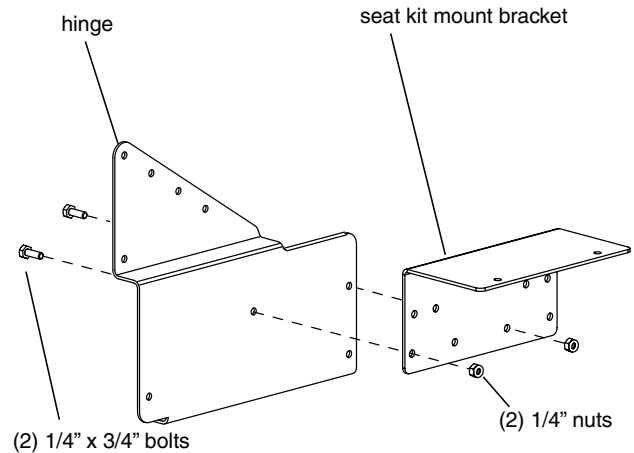
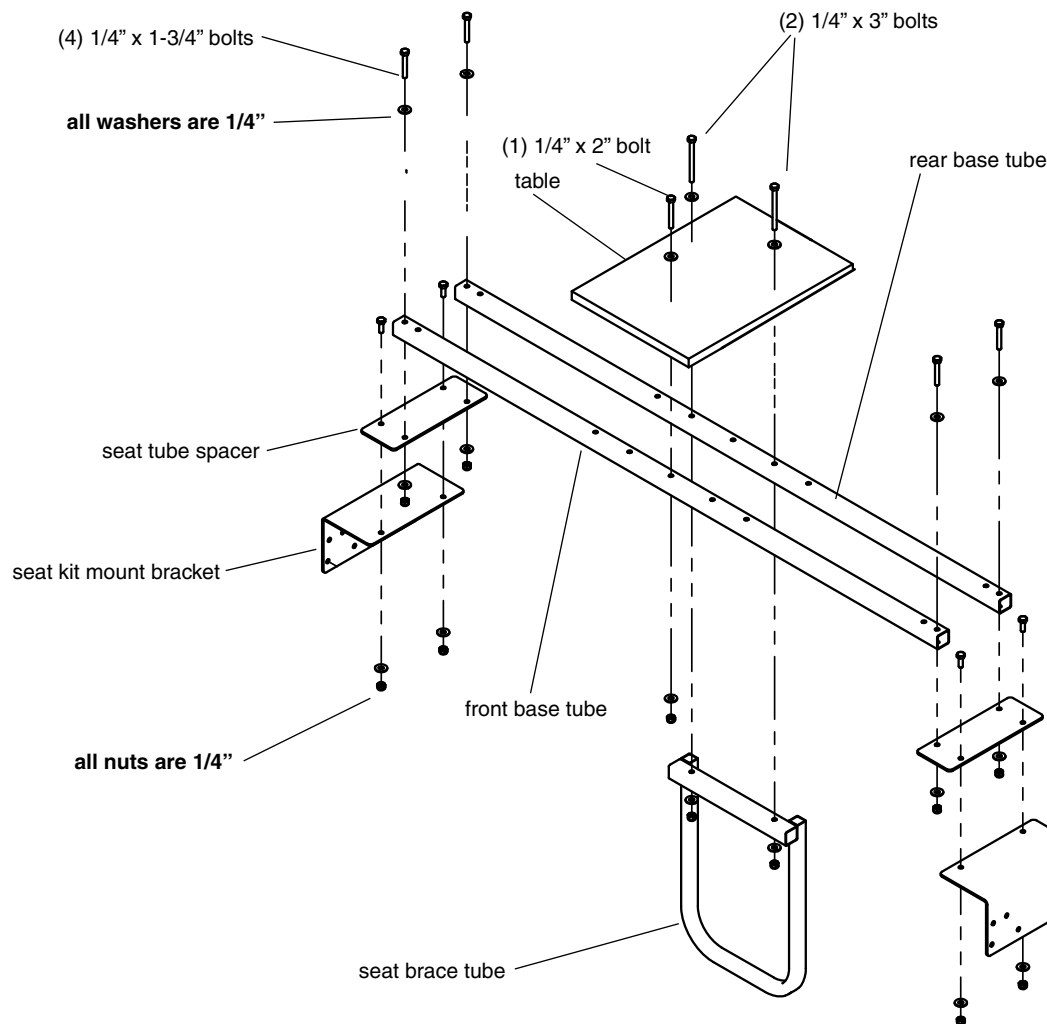

FIGURE 2 (right side shown)
FIGURE 3A
1. Attach (2) seat kit mount brackets (68430) to each hinge assembly using (4) provided 1/4-20 x 3/4" hex head bolts and nyloc nuts. Make sure the mount brackets are positioned in the correct hole locations so seat brace and seat positions are correct later in instructions. **SEE FIGURE 2.**
2. Attach (2) seat tube spacers to each seat kit mount bracket using (4) provided 1/4-20 x 3/4" bolts, nyloc nuts and washers.
3. Attach (2) base tubes (68225) to the top side of seat tube spacers using (4) provided 1/4-20 x 1-3/4" bolts, nyloc nuts and (8) washers. **SEE FIGURE 3A.**
4. a. Attach table (68439) to top of rear base tube and seat brace (68172) to bottom of rear base tube using (2) provided 1/4-20 x 3" bolts, nyloc nuts and (4) washers. **SEE FIGURE 3A.**
NOTE: Seat brace should be oriented so cross tube is to the front of ice shelter. SEE FIGURE 3A.
b. Attach front of table to front base tube using (1) provided 1/4-20 x 2" bolts, nyloc nut and (2) washers. **SEE FIGURE 3A.**